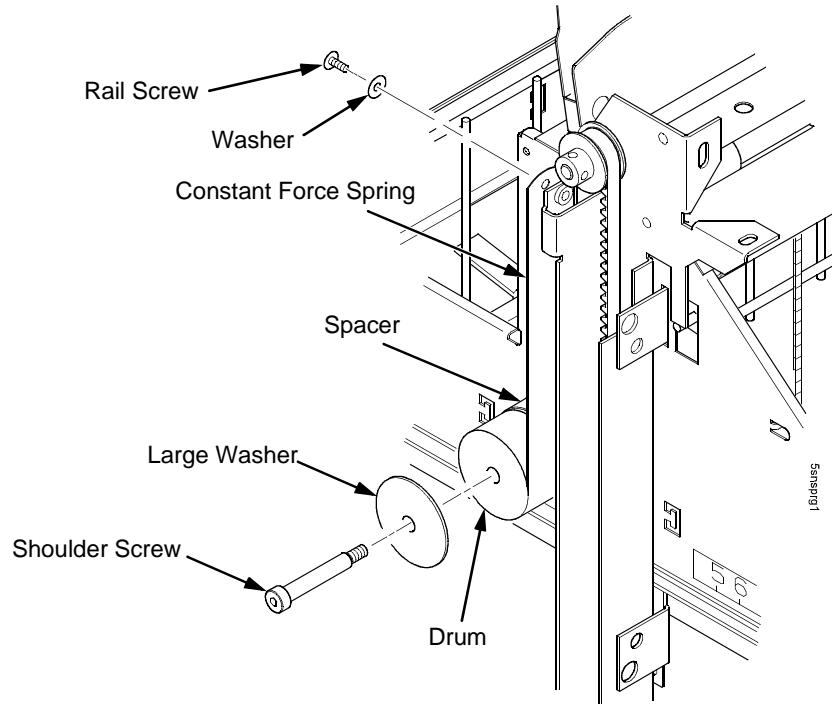

Figure 87. Removing the Constant Force Spring
3. Remove the shoulder screw and large washer from the constant force spring and drum. Let the spring coil itself up until it reaches the screw that secures it to the vertical rail. (Figure 87.)
4. Firmly gripping the spring and drum, remove the screw securing the spring to the vertical rail. (Figure 87.)